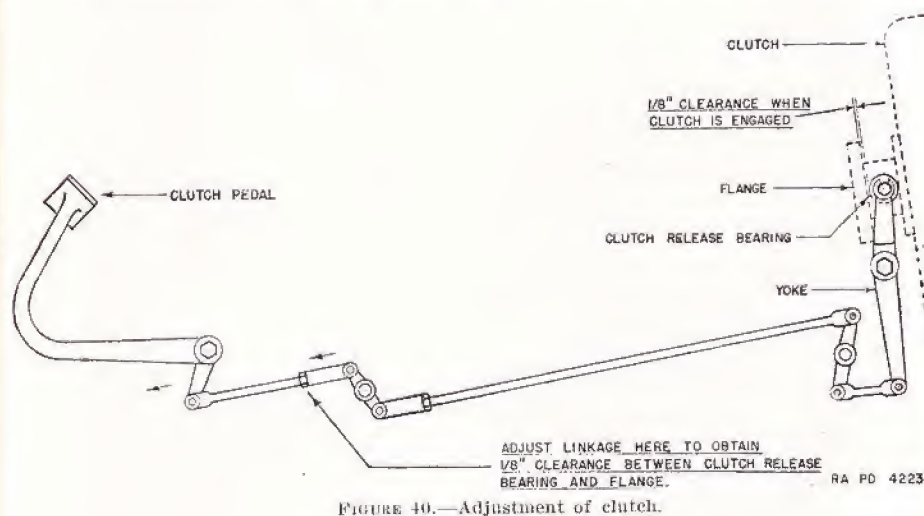

FIGURE 40.—Adjustment of clutch.
b. Correct adjustment of the clutch pedal is made by lengthening the adjusting link (fig. 40) so that $\frac{1}{8}$ -inch clearance exists between the clutch release bearing and flange when the clutch is engaged.
75. Clutch release.—*a.* The clutch is provided with a release device which holds the clutch in the “out” position (disengaged). The foot pedal and levers shown in figure 40 are part of the release mechanism. Release bearings should always be inspected when the engine is removed.